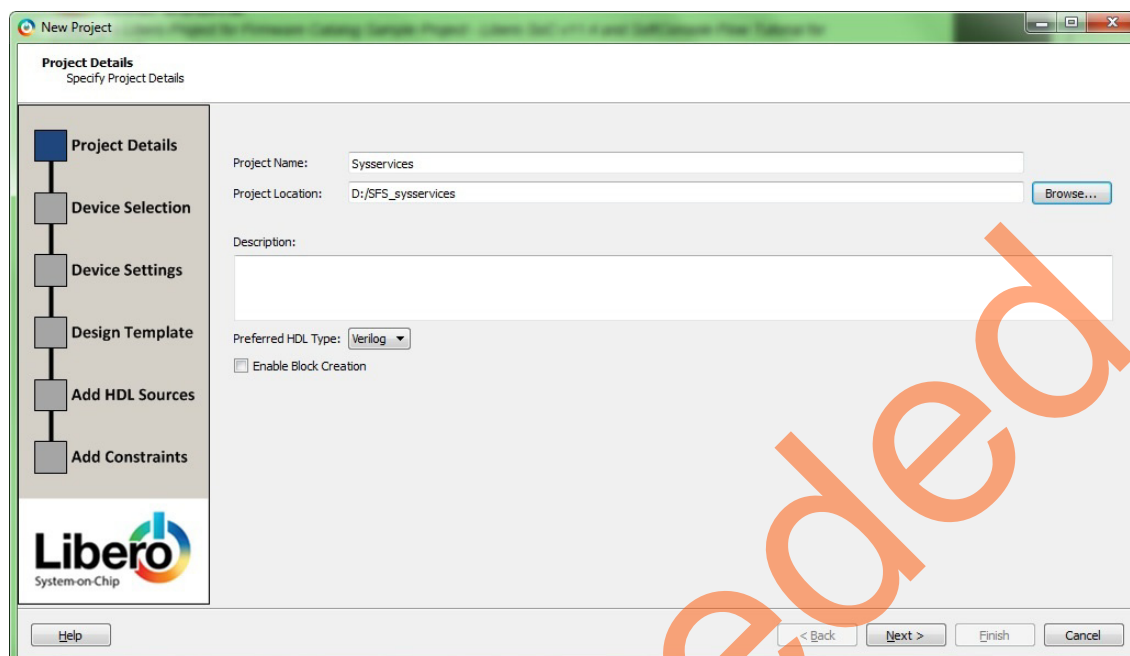

Figure 4 • Project Details Page
3. Enter the following information in the **Project Details** page, as shown in Figure 4: